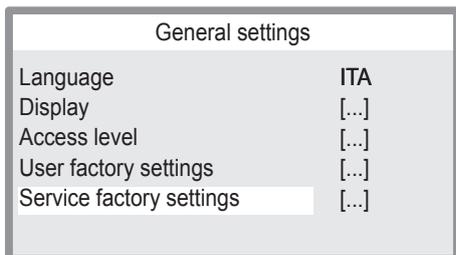

Figure 9.12
- Press key "D" (Figure 9.7) to access the selected menu (Figure 9.12).